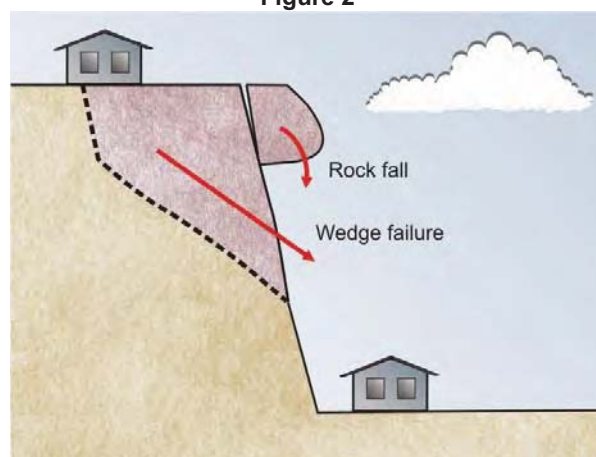

Figure 3
**Wedge failures (Figure 3)** - normally only occur on extreme slopes, or cliffs (Table 1), where discontinuities in the rock are inclined steeply downwards out of the face.
**Rock falls (Figure 3)** - tend to occur from cliffs and overhangs (Table 1).